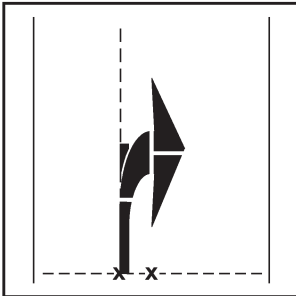

Figure 68
6. Place the special “fillet” for the combination arrow with the LEFT edge along the chalk line and fit it into the curve of the curve arrow (see Figure 68).